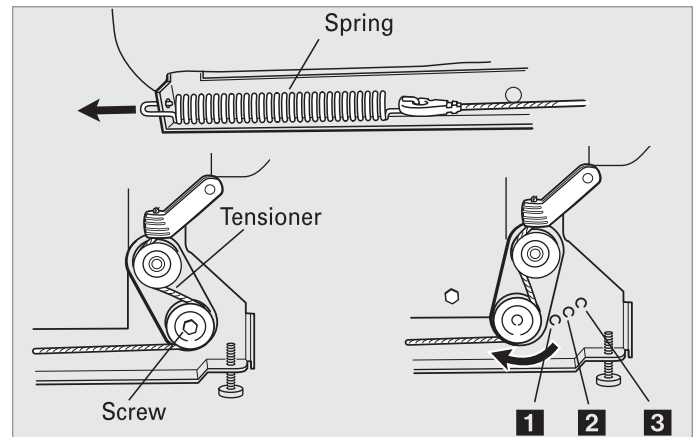

Figure 2
1. To adjust the door spring tension, unhook the spring from the rear leg of dishwasher. See figure 2.
3. The screw can be put into one of 3 holes (1, 2, 3) in the front leg of dishwasher, see figure 2. If the door closes by itself, move the tensioner to a lower-numbered hole and replace screw.